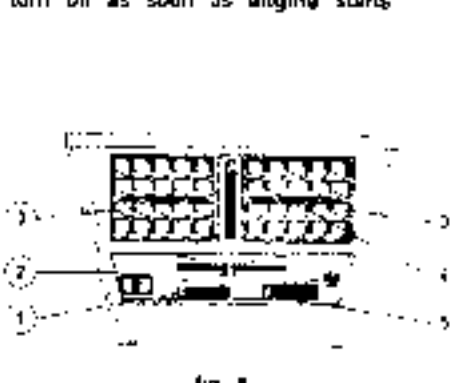

Fig. 8
- 15 - Central air-grills opening and adjusting control (fig. 8).
- 16 - Fan control (fig. 8).
- 17 - Air-forced temperature regulation (fig. 8).
CLIMATIZZAZIONE (Fig. 8/1)
(Fig. 8/2)
CLIMATISATION (Fig. 8/1)
REGLAGE DE LA TEMPERATURE (Fig. 8/2)
(Fig. 8/1)
TEMPERATURE ADJUSTMENT (Fig. 8/2)
COMANDO GRIGLIE DI AERAZIONE INTERNO ABITACOLO (fig. 8/3)
COMANDO APERTURA E REGOLAZIONE PORTATA DELLE GRIGLIE CENTRALI DI AERAZIONE (fig. 8/4)
COMANDO VENTILATORE (fig. 8/5)
COMMANDE GRILLES D'AERATION INTERIEUR HABITACLE (fig. 8/3)
COMMANDE OUVERTURE ET REGLAGE DEBIT GRILLES CENTRALES D'AERATION (fig. 8/4)
COMMANDE VENTILATEUR (fig. 8/5)